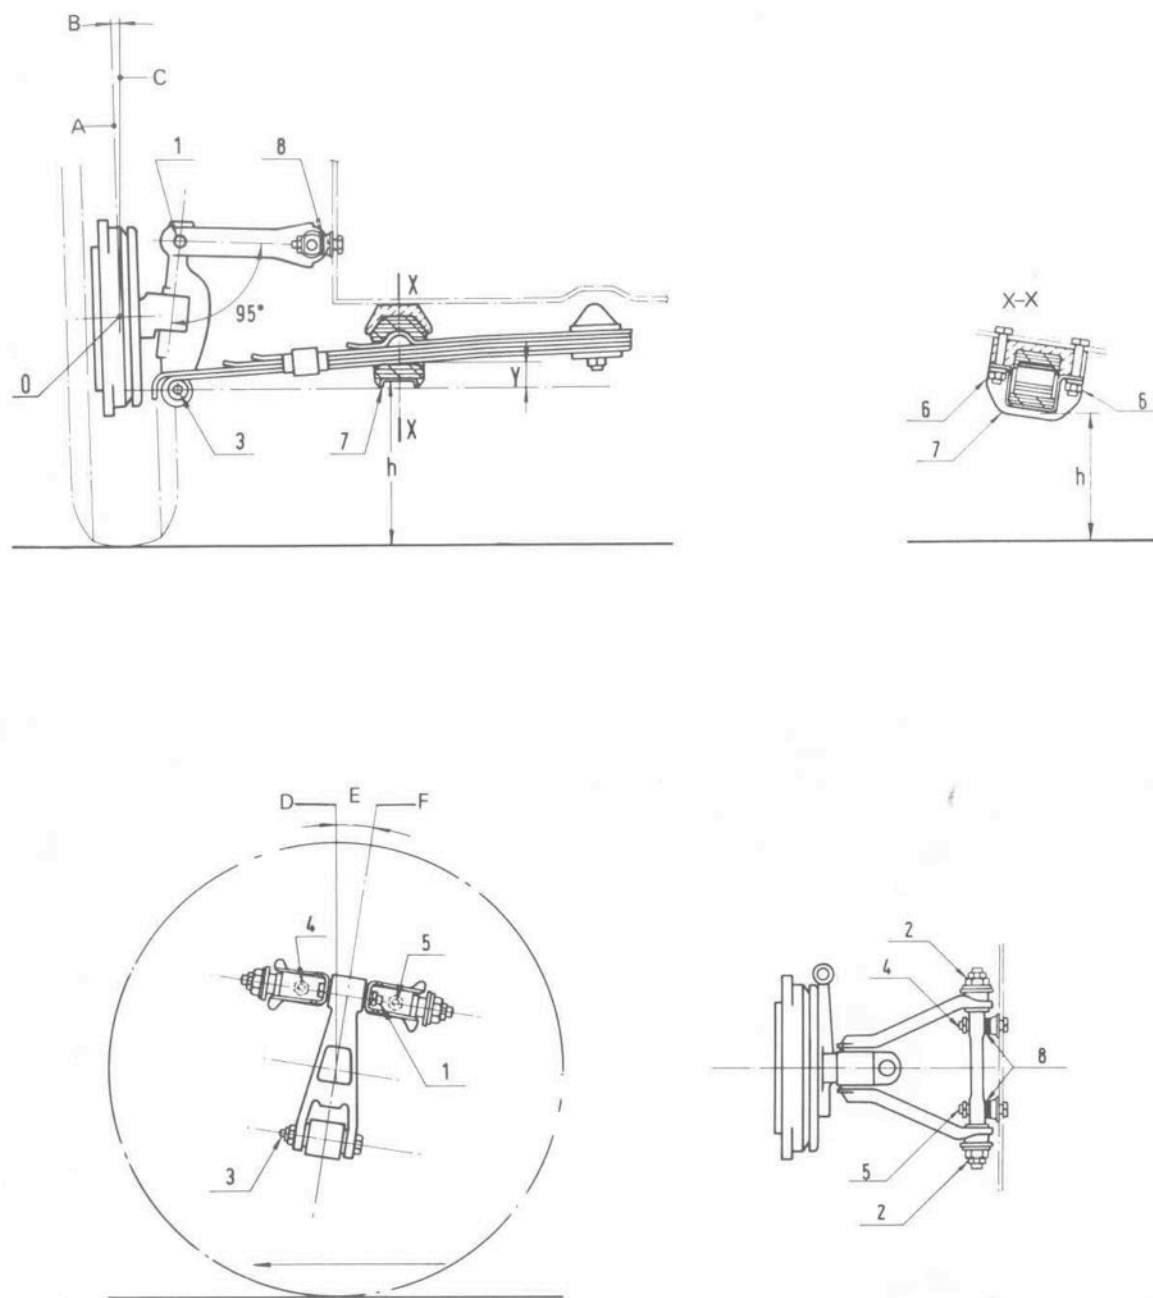

FIG 8:11 Diagrams for checking and adjusting camber and castor angles
**Key to Fig 8:11** 1 Pin, control arm to kingpin 2 Nuts, control arm shaft 3 Pin, spring eye to kingpin 4, 5 Bolts and nuts, control arm to body 6 Spring mounting to body, bolts and nuts 7 Leaf spring mounting 8 Adjustment shims